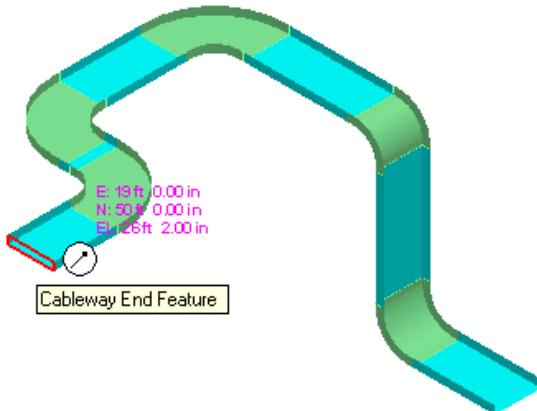

Figure 43: Cableway End Feature
39. Select the **Cableway End Feature** of the cableway placed earlier in this session, as shown in Figure 43.